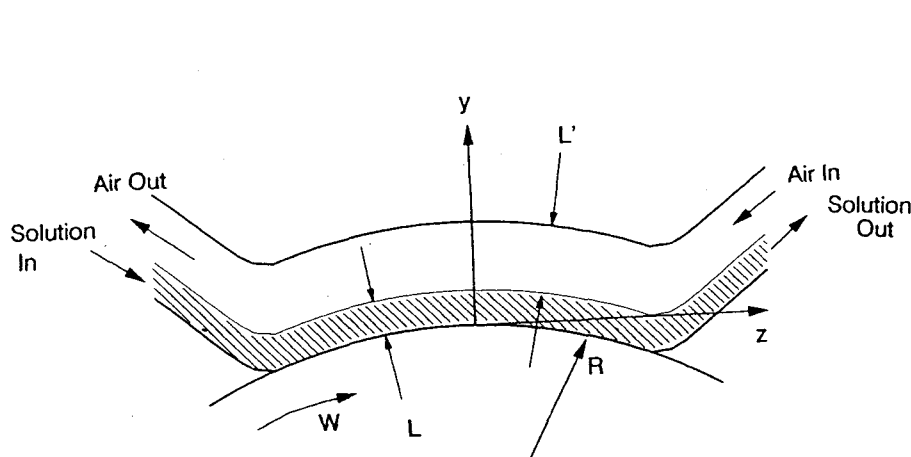

Figure 2 - Solution-cast film geometry
2. Figure 2 shows the process of production of solution-cast films. A polymer solution is cast onto a rotating roll, and the solvent is removed by air flowing in the opposite direction. Then, the dry film is removed from the roll and goes into the next processing step. Estimate the convective mass transfer coefficient of the solvent into the air and the time needed for 80% solvent removal. The air speed, V , is 1 m/s, the radius of the roll, R , is 30 cm, and the thicknesses of the film, L , and of the air duct, L' , are 2 mm. The polymer solution is in contact with the roll for $1/5$ of its periphery. At average air temperature of 50°C , a typical value for the diffusivity of the solvent into the air stream is $D_{A(\text{air})} = 1 \times 10^{-5} \text{ cm}^2/\text{s}$, and the diffusivity of the solvent in the solution is $D_{A(\text{liq})} = 1 \times 10^{-6} \text{ cm}^2/\text{s}$.